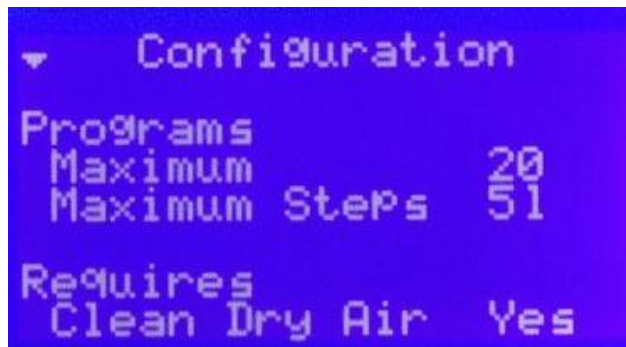

Figure 3-22A
3.4.4.2 “INFO MODE” - CONFIGURATION - DISPLAYED FIELDS – see figures 3-22A-3-22E